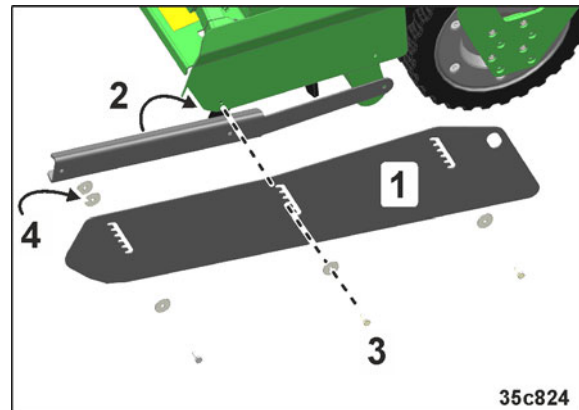

Fig. 19
Bolt the side guide plate extensions (Fig. 19/1) onto the rotary cultivator / harrow.
4. Move the counter holder behind the mount into position (Fig. 19/2)
5. Hold the side guide plate extensions (Fig. 19/1) on the mount of the KE Super / KX/KG 3001 and fasten with the bolts (Fig. 19/3) on the counter holder.
6. Use spacers for the front bolted connection (Fig. 19/4).